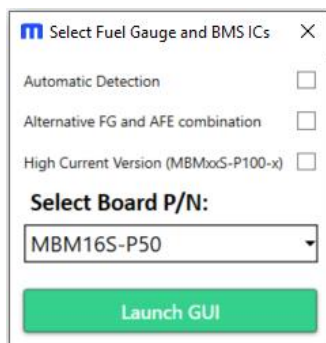
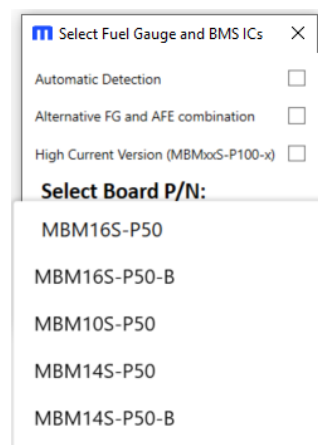

Figure 23: Fuel Gauge and BMS ICs Selection Window 1
Figure 24: Fuel Gauge and BMS ICs Selection Window 2
- a. Manually select the MBMxxS-P100-x version in the drop-down menu (see Figure 23 and Figure 24).